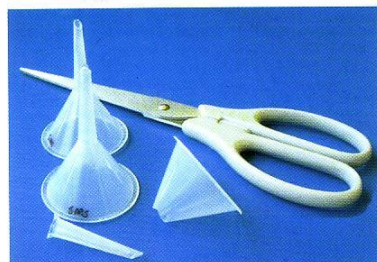

Figure 2 Equipment required
1. Cut the stem off a small plastic filter funnel (Fig. 2).